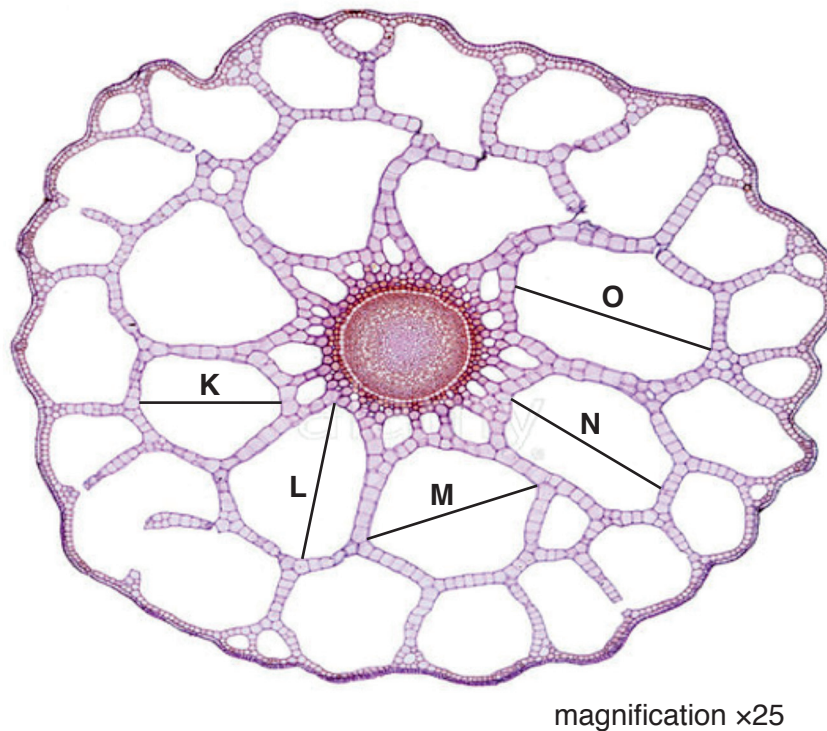

Fig. 2.2
- (b) Fig. 2.2 is a photomicrograph of a stained transverse section through a plant stem of a different type of plant.
- (i) Use the magnification and the lines in Fig. 2.2 to find the actual diameter, in μm , of the air spaces labelled **K**, **L**, **M**, **N** and **O**.
- (iii) A feature of the plant in Fig. 2.2 is the presence of air spaces in the plant stem.
- (c) Prepare the space below so that it is suitable for you to record the observable differences between the root on **J1** and the stem in Fig. 2.2.